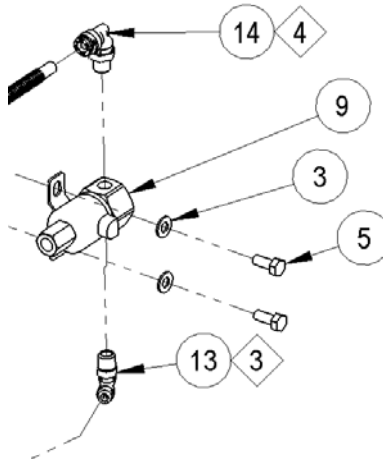

FIG. 4-1
12. Install pipe sealer to 3092-MM5-A02 (item 13) and 3902-MM5-A05 (item 14) and install into retained solenoid as shown in FIG. 4-1. Tighten 2-3 T.F.F.T.